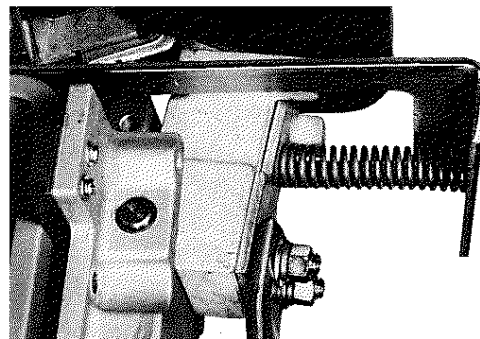

Figure 6
5. Slide out the contact arm pin (24) after removing the hex head nut, lockwasher and set screw (26).
6. Remove the contact arm assembly (22).
7. Remove the magnet frame (38) from the contactor by removing hex head nuts (5) and lockwashers (8).
8. Remove the silicon bronze hex head cap screw (32) on the front of the magnet core and remove the lockwasher (13), core cap spacer (34), core cap (35) and coil (36).
9. Install the new coil using the core cap, core cap spacer and lockwasher and tighten the silicon bronze hex head screw. Note that the steel core cap, which is thicker than the non-magnetic phospher bronze spacer, must be installed against the coil. (See Exploded View). Check that the spring washer (37) is so positioned that the outside edge is against the coil (36) and not against the magnet frame.
14. Replace the auxiliary arm spring retainer and spring using lockwashers and hex head screws. Check that the auxiliary arm spring is properly seated between the auxiliary arm spring retainer and the auxiliary arm (Fig. 6).
2. Remove the auxiliary arm spring retainer (16) by removing hex head screws and lockwashers.
3. Remove the auxiliary arm spring (15) from the auxiliary arm.
5. Replace the auxiliary arm spring retainer using hex head screws and lockwashers. Check that the auxiliary arm spring is properly seated between the auxiliary arm spring retainer and the auxiliary arm (Fig. 6).